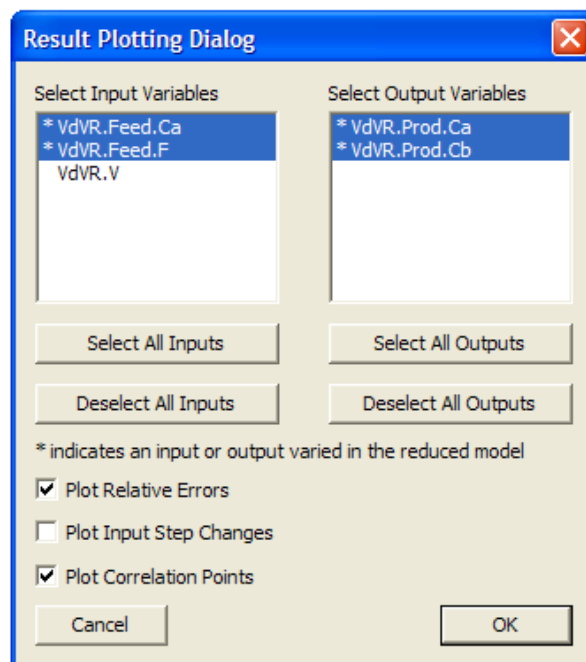

Figure 19: Result Plotting Dialog Window
26. Indicate to the D-RM Builder to run the UQ analysis on the generated DABNet model following the validation step-change sequence. The algorithm of Unscented Kalman Filter (UKF) is used to predict the state variables step by step using the D-RM and update the state and output variables using the measurement data, which is calculated by adding the random noise to the ACM predictions. The mean values of the state and output variables are called “filtered” values, which are the weighted averages by considering both the D-RM predictions and measurements. The Unscented Transform (UT) calculations are performed to calculate the means and covariances for the non-linear functions involved. Multiple samples known as the sigma points around the means are used to evaluate the non-linear functions in the UT calculation. The UT approach is proved in the literature to be much faster than Monte Carlo sampling with reasonable accuracy. The covariance matrices are also updated step by step. The elements in the covariance matrices tend to reach their asymptotic values after a certain period of time along the step-change sequence. To run the UQ analysis, issue the **UQ → Calculate...** command. The “Result Plotting Dialog” window as shown in Figure 19 displays, asking the user to specify the options for plotting the results of the UQ analysis.